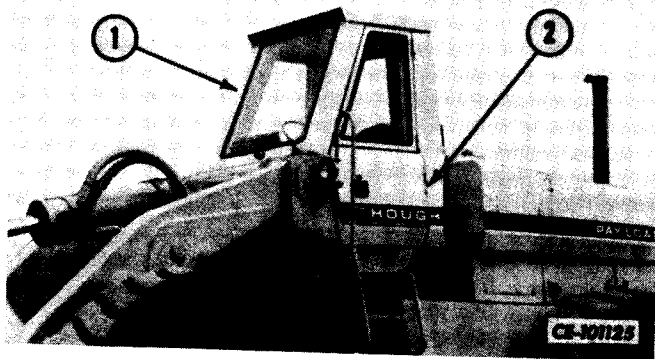

Figure 4-5
Remove mounting hardware securing cab (1, Fig. 4-5) to operator's compartment (2). Attach a sling to cab and remove cab from tractor.